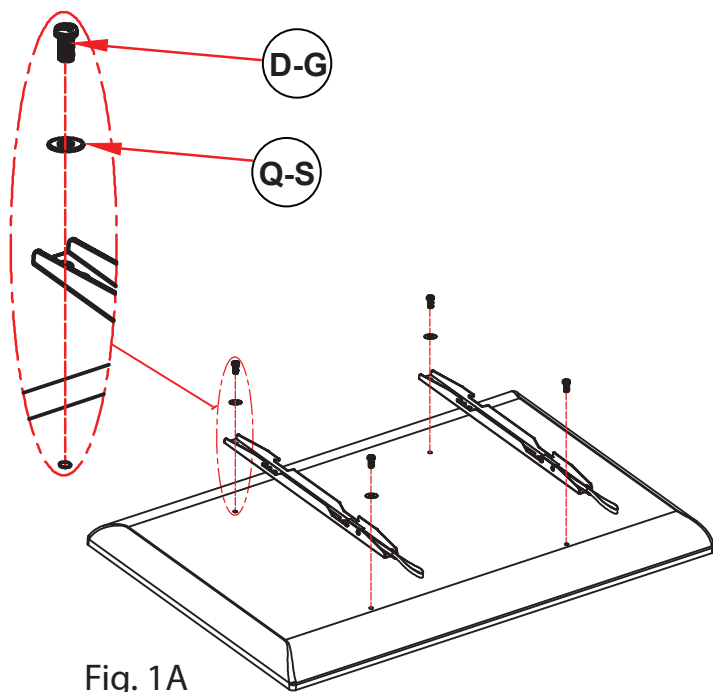

Fig. 1A
Center the Brackets (2) vertically on the rear of the TV. Attach the Brackets (2) to the rear of the TV using four of the bolts (D-L) with the proper size washers (Q-S) as shown in Fig. 1a.